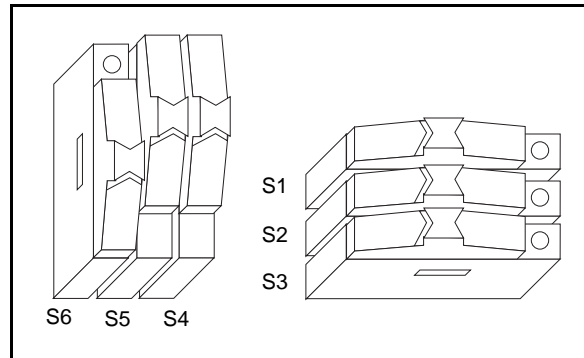

Figure 3. Differential Temperature Sensor Switch Configuration with Accessory Grounds Connected
- For differential operation, connect the analog channel 0 to the temperature sensor by switching S5 and S4 to the up position, as shown in Figure 3.